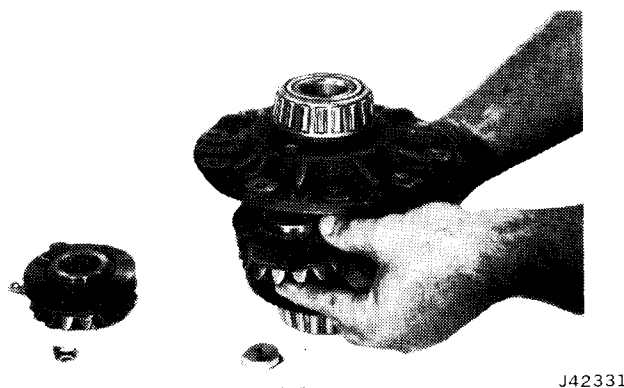

Fig. 10-71 Removing Side Gear and Clutch Pack
(18) Retain upper side gear and clutch pack in case by holding hand on bottom of rotating tool while removing forcing screw. Remove rotating tool, upper side gear, and clutch pack.
(19) Remove differential case from axle shaft. Invert case with flange or ring gear side up and remove step plate tool, lower side gear, and clutch pack from case. Remove retainer clips from both clutch packs to allow separation of plates and discs (fig. 10-71).